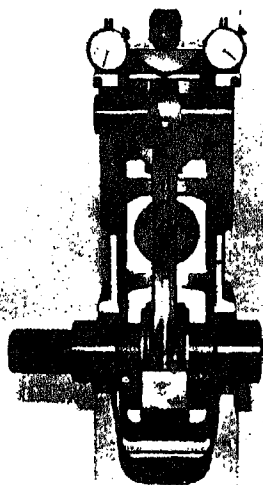

Fig. 1-8-3. Checking rod bore alignment
5. Set rod in fixture. Fig. 1-8-3.